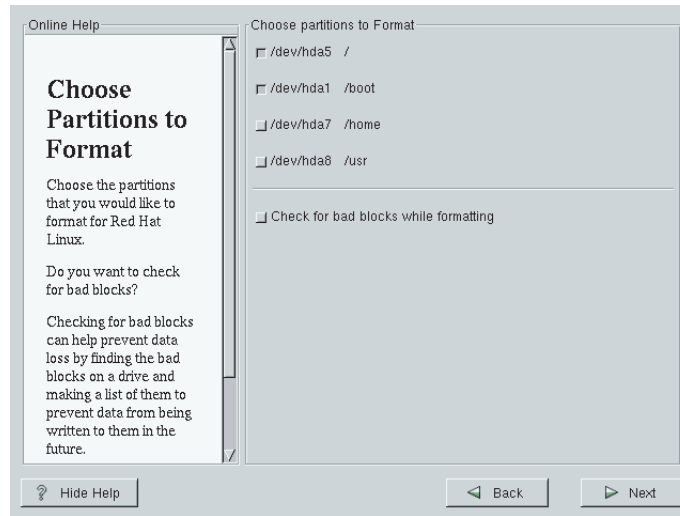

Figure 1-4 Choose partitions to Format Window
16. Click the option button that precedes each partition that you configured in Step 12 (refer to Figure 1-4).